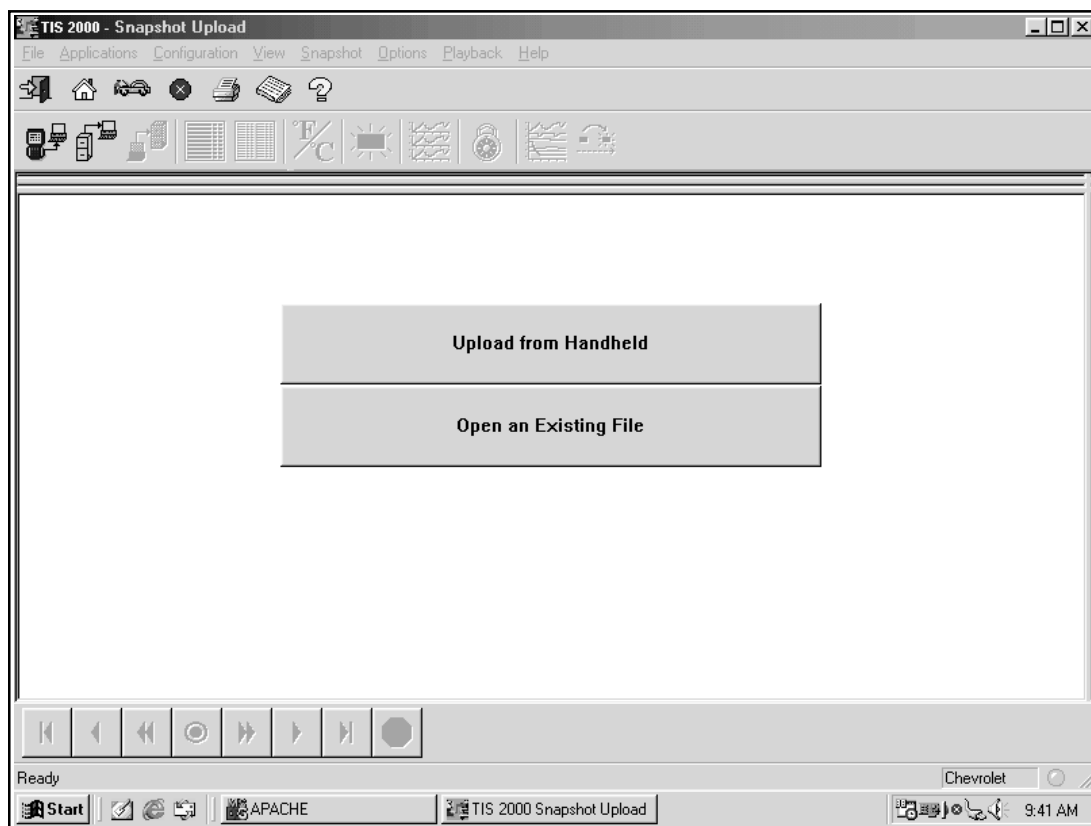

Figure I-63, Upload from Handheld Option
3. Select the Snapshot Upload icon from the Tool Bar (the first icon in the toolbar) OR select the Upload from Handheld box in the center of the screen (Figure I-63).